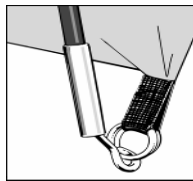

Figure 1.
- Locate one end of the pole in ring & pin system as **Figure 1** below.